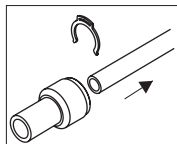

Fig. 3
- 3) Pull out the tubing (fig. 3).